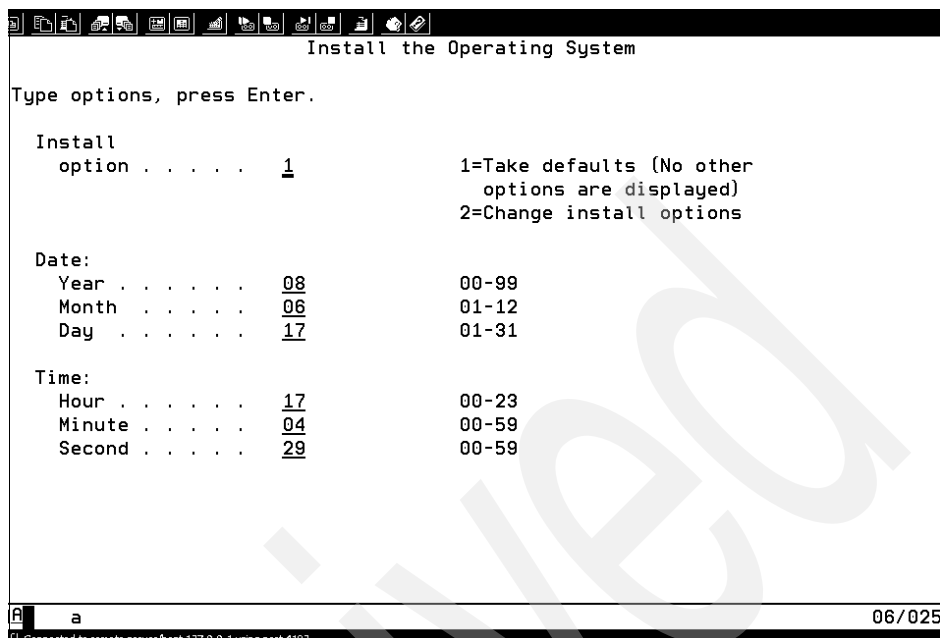

Figure 7-64 Set date and time
6. The Install the Operating System panel appears on the console, as shown in Figure 7-64 on page 302.